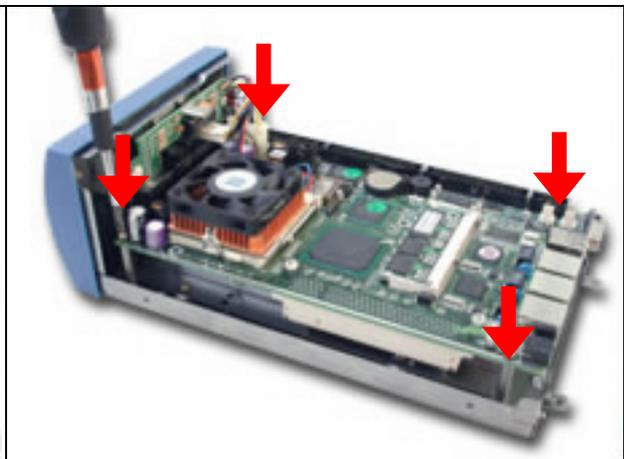

*Fig. 2-28* Install into chassis
6. Fasten both screws back to lock HDD onto chassis (*Fig. 2-28*).